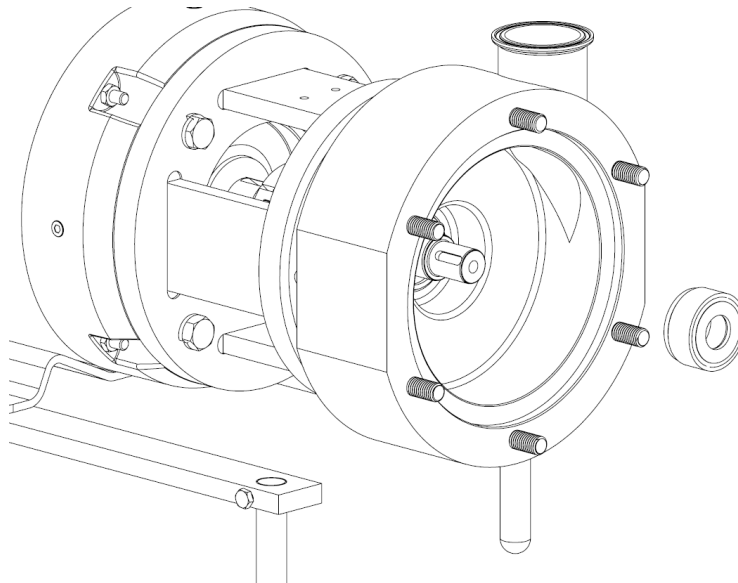

Figure 5
7. The rotating seal, O-ring and spring will come out as a single component as can be seen in Figure 5.